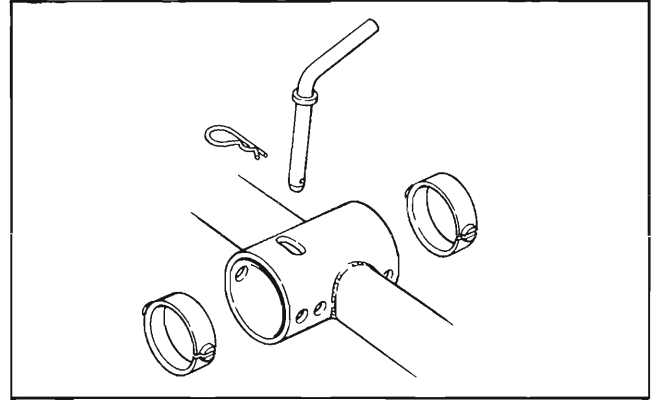

Fig. 3
5. On a WR204 Rake after Serial #2577 **ONLY**, attach the Plastic Bearing to the Main Turning Bar on the Main Frame as shown in Fig. 3.